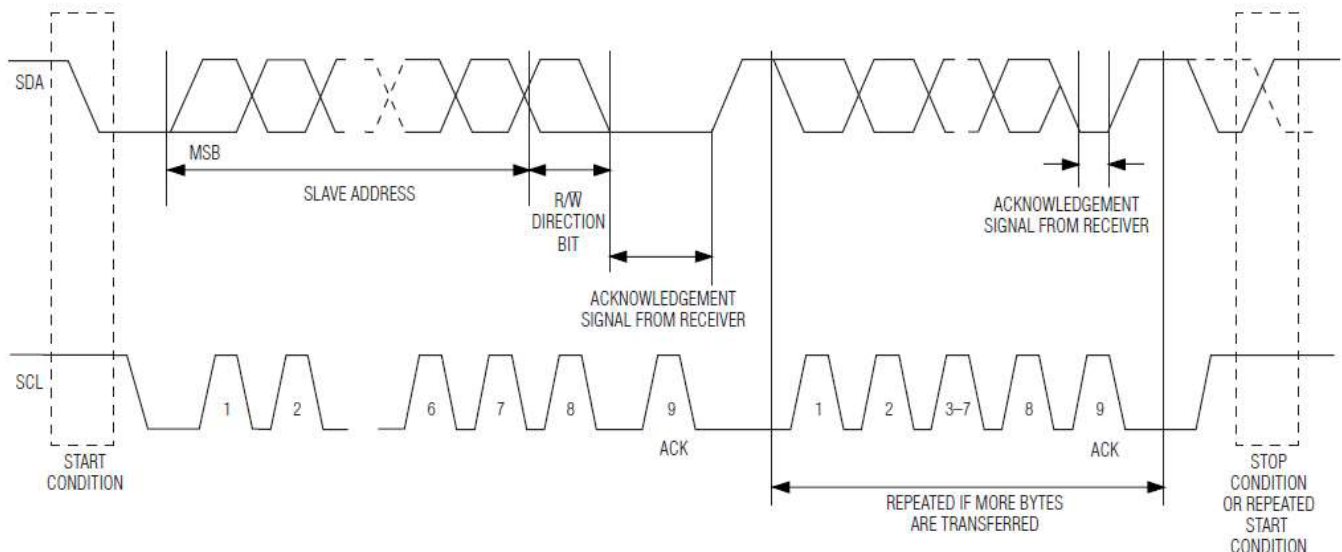

Figure 6 . 2-Wire Data Transfer Protocol
Connections to the bus are made through MOD_DEF2 and MOD_DEF1. Timing diagrams for the 2-wire serial port can be found in Figures 6. Within the bus specifications, a standard mode (100kHz clock rate) and a fast mode (400kHz clock rate) are defined. The Module works in both modes.
- Data valid : The state of the data line represents valid data when, after a START condition, the data line is stable for the duration of the high period of the clock signal. The data on the line can be changed during the low period of the clock signal. There is one clock pulse per bit of data. Figures 6 detail how data transfer is accomplished on the 2-wire bus.
- START Condition : A high-to-low transition of MOD_DEF2 with MOD_DEF1 high is a START condition that must precede any other command. See the timing diagrams in Figures 6 for further details.